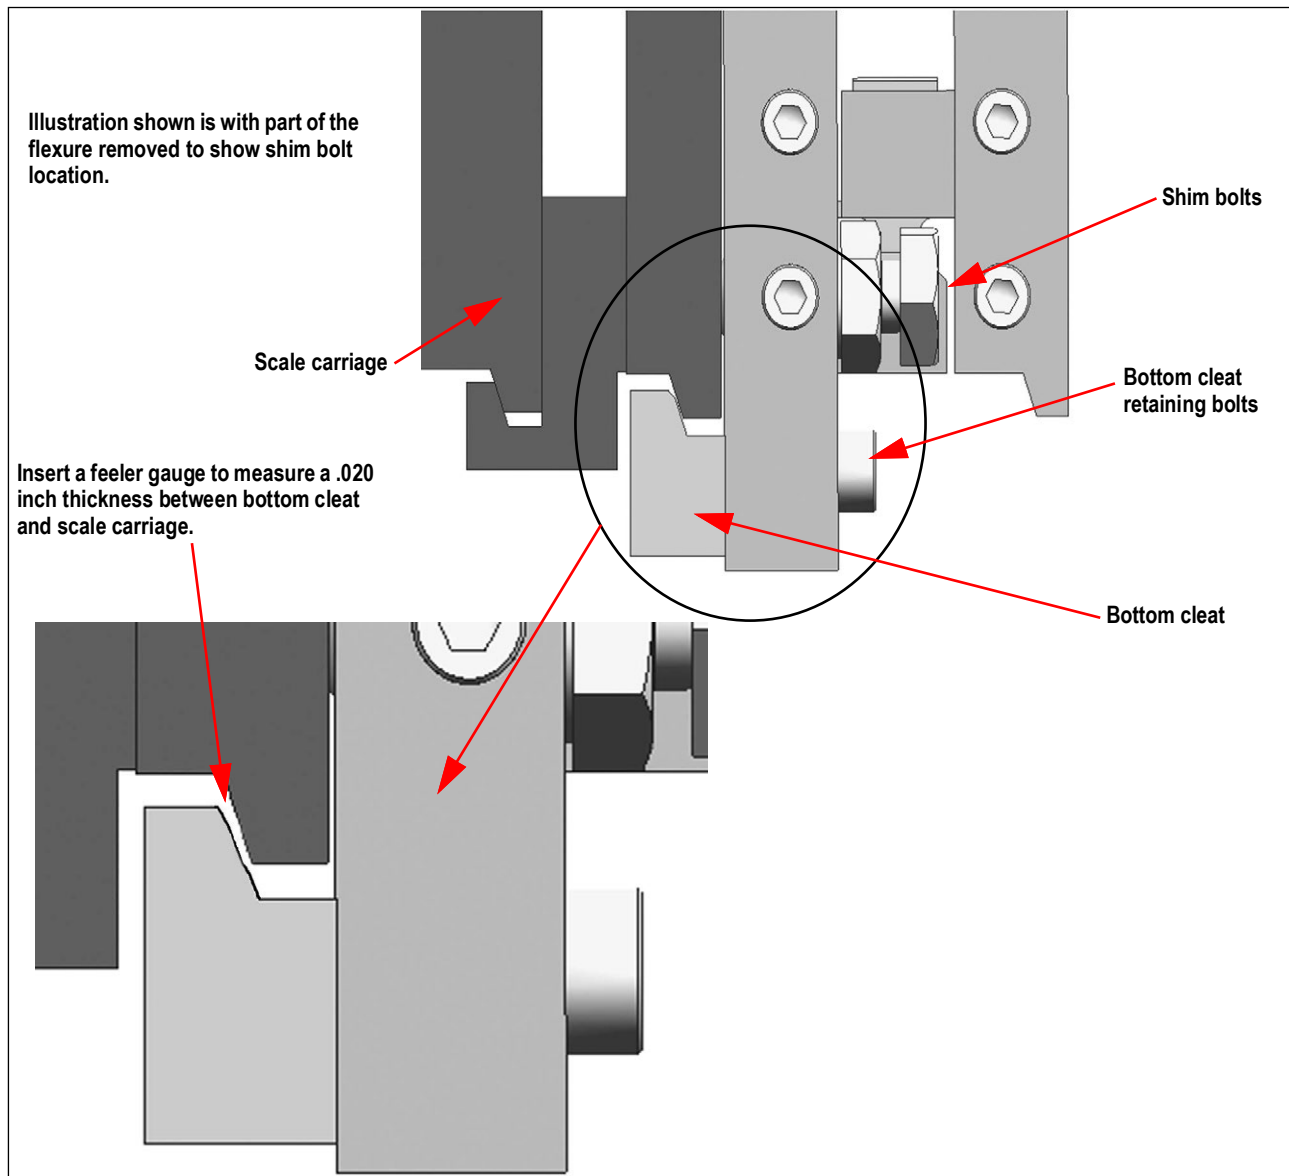

Figure 2-5. Bottom Cleat Location and Assembly
6. Attach the bottom cleats to the bottom of the scale assembly (Figure 2-5), so the lip of the cleat is behind the scale carriage.